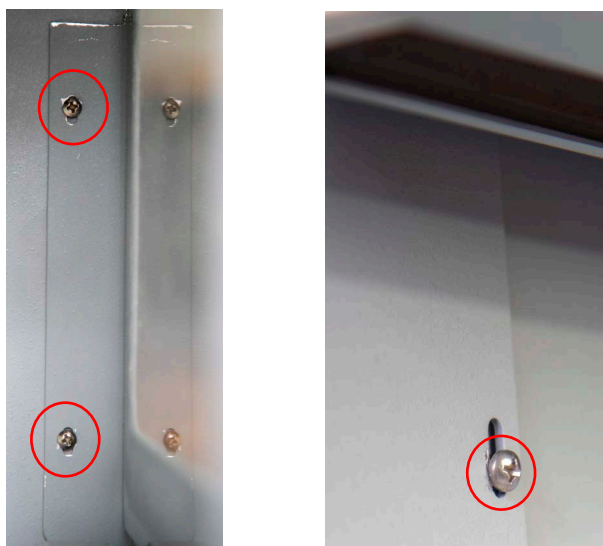

Figure 2-8 Location of holes for the vapor enclosure
1. Secure the Vapor Enclosure with the three provided screws to the holes in the instrument (Figure 2-8). Two along the back of the fraction collection area and one on the side of the fraction collection area.